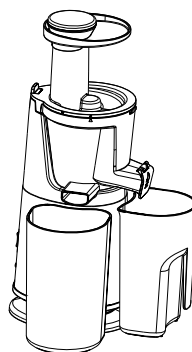

**Fig. 4**
- Put the jar lid downwards on the jar and then align the symbol “▼” on the jar lid with the symbol “▲” on the jar. Then rotate the jar lid clockwise until the symbol “▲” on the jar aligns with the symbol “I” on the jar lid (see Fig.4). Press the locking plate upwards to lock the jar lid into position. Every part needs to be assembled correctly, otherwise the appliance will not operate. Place the food pusher into the chute.